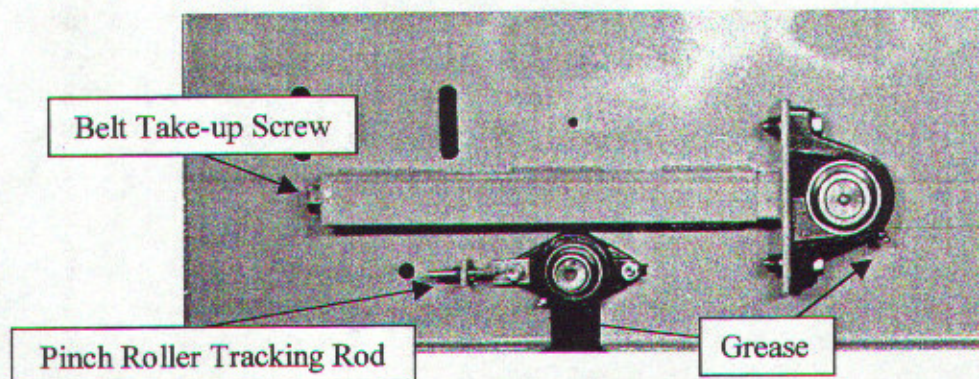

Figure 2
Step 4: Install belting with the PVC coated (shiny), or crescent (ruff) side up. Pull belting over the tail drum and then over all of the pinch rollers and return roller assemblies (except on the incline joint, belt must run under return roller), and all supports holding up conveyor. Pull belting over the drive drum until both ends meet. Mesh the loops of the belt lacing together, and thread the supplied cable through the loops. Pinch the end loops of the lacing to keep cable in place. Tighten belting using the two belt take-up screws on the idle end (shown in figure 2), tighten evenly. **Note:** Belt tension will vary with the length of the conveyor, belt is considered tight when belting moves under full load with no slippage on drive drum.
Step 7: Tracking the conveyor belt, start on the idle end. Run conveyor in short intervals (5-10 seconds), adjusting as required. If belting run to one side, tighten the take-up screw (shown in figure 2) on that side. Move to the drive end, and adjust tracking using the roller tracking rod weldment, located on the side opposite the drive reduction (shown in figure 3). Now run conveyor and adjust tracking on pinch rollers, adjusting pinch rollers will affect tracking on drive and tail drum. Adjust pinch rollers using tracking rods (shown in figure 2 and 3). Make any necessary adjustments to assure proper tracking on all drums and pinch rollers. **Note:** Belting may wander up to 3/4" from side to side, this is normal. Belt tracking will need to be observed frequently over the first year, until initial stretch and set is achieved.